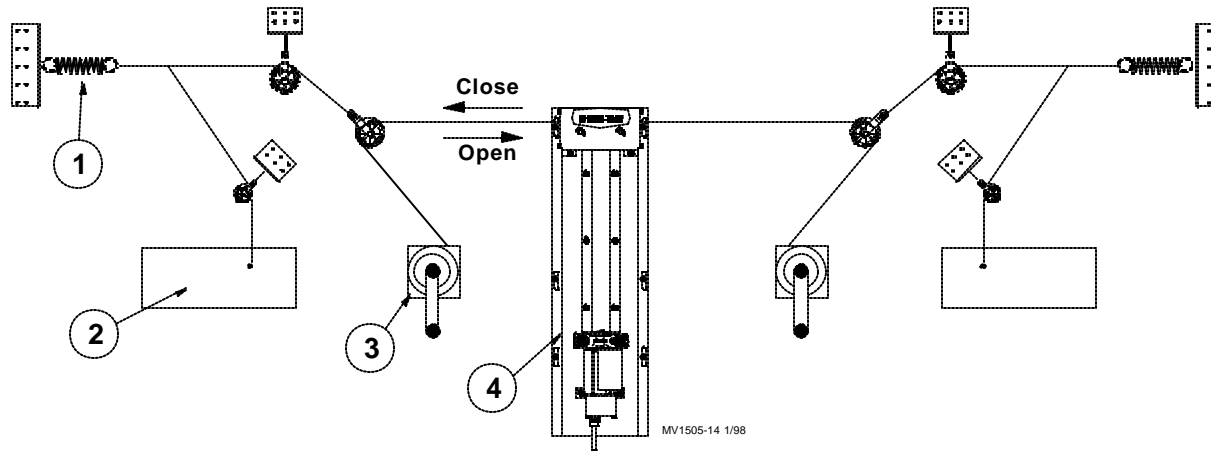

Figure 2. Mini Linear Lift Vertical Installation
The Mini Linear Lift may be mounted horizontally or vertically on a wall or ceiling. The Mini Linear Lift may also be placed in the middle of the side wall or on the end wall depending on whether you have one or two sides of doors. See **Figure 2 and 3**. The installation location must be reinforced and sturdy enough so the Mini Linear Lift can operate properly and safely.
1. The first step is to fasten the Lift, the Hand Crank, and the Large Springs in their proper locations. **Figures 2 and 3**.
2. Route the cables from the Lift through the Pulley System and the Hand Crank and then back to the Large Springs. The Cable should be loose and the Large Springs unstretched. With the normal Pulley setup—**Figure 2**, the force needed from the Mini Linear Lift is cut in half. Make sure not to arrange the Pulleys in a way that would double the force needed.